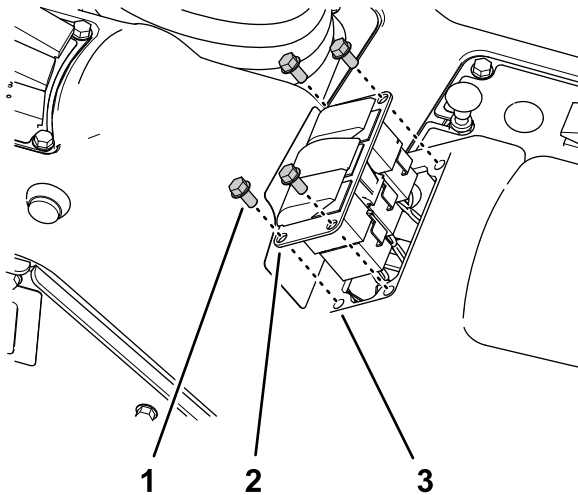

Figure 31
1. Remove the 4 flange head screws (1/4 x 1/2 inch) that secure the 3-switch panel to the control console (Figure 31).
3. Disconnect the 8-socket connector of the machine wire harness (labeled **Rate Switch**) from the 8-pin connector of the switch (Figure 31).
6. Align the switch plug to the opening in the 3-switch panel where you removed the rate switch (Figure 31).
7. Insert the switch plug into the 3-switch panel until the plug snaps into the panel securely (Figure 31).